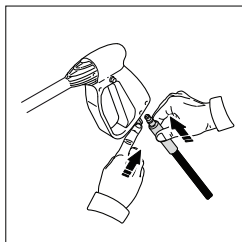
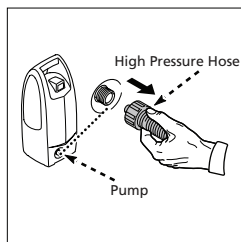

Fig. 17
Fig. 18
- Remove high pressure hose from the spray gun (Fig. 17) and unscrew the other end of the high pressure hose from the power washer (Fig. 18).